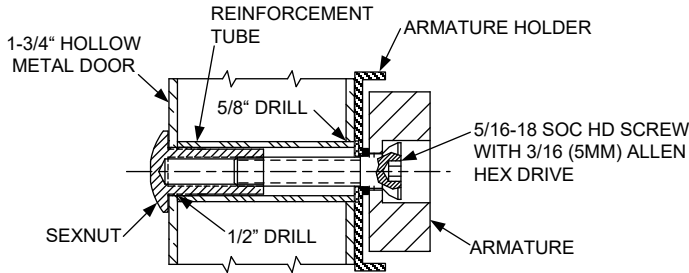

FIG. 3A HOLLOW METAL DOOR
4. Drill holes in door and mount armature according to figure 3A, 3B, or 3C depending on door type.